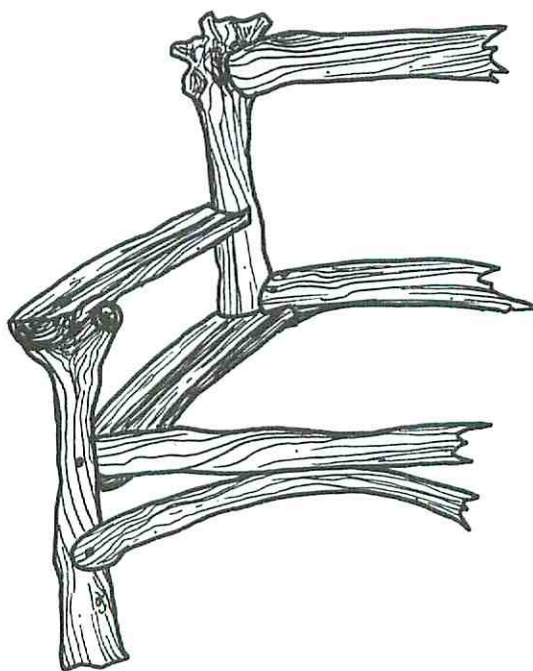

Figure 6
Find the piece you've chosen for the arms (J). Cut it lengthwise to get two matching pieces. You'll need to finish both ends. The end that will attach to the back verticals should be notched to fit. The other end should be nicely curved. See Fig. 6. If your front legs are Y-shaped pieces, you can rest the